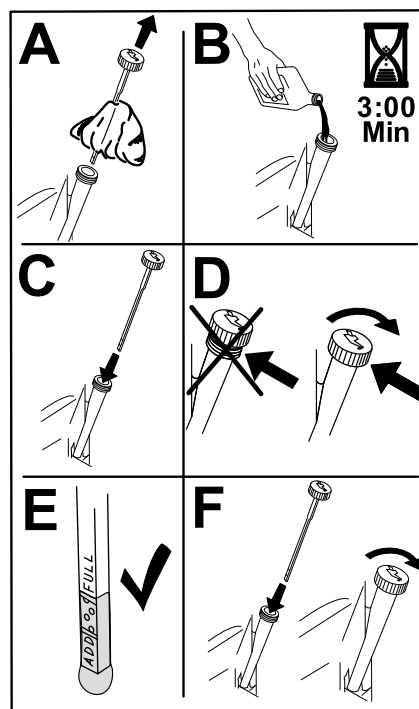

Figure 37
- Slowly pour approximately 80% of the specified oil into the filler tube and slowly add the additional oil to bring it to the Full mark (Figure 37).